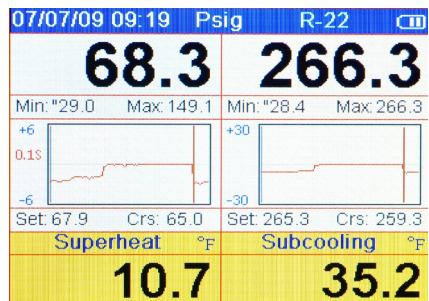

Figure 3-2. 2nd System Analyzer Display
- The second display (see Figure 3-2) is the same as the first except for the exclusion of the Temp-1, Temp-2, vapor (Low sat.) and liquid (High sat.) saturation points.